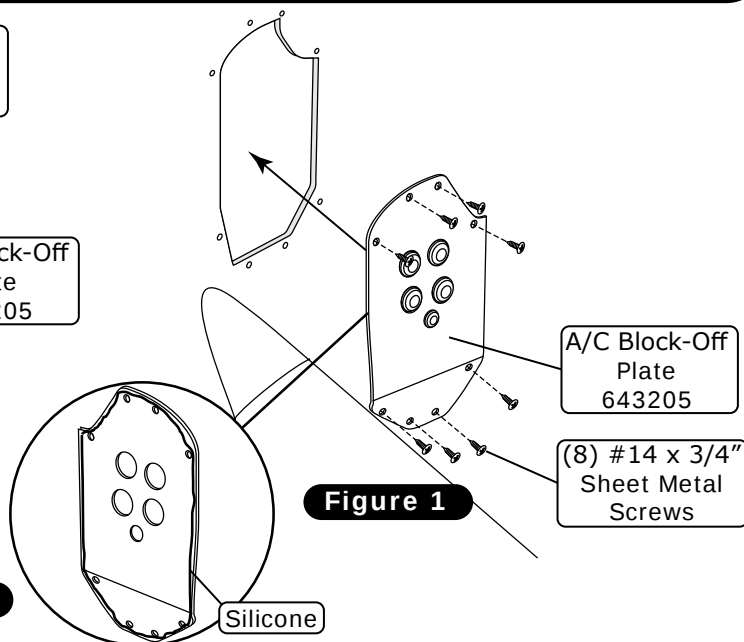
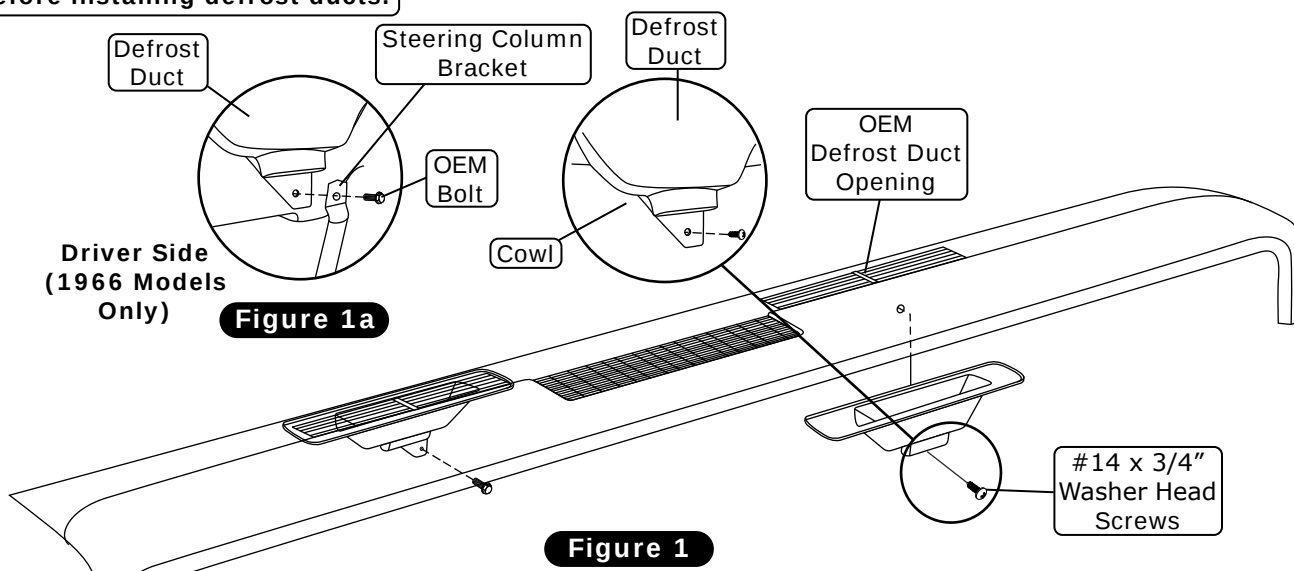

Figure 1a
Figure 1
NOTE: On 1967 models only, remove the A/C hoses and grommet beside the battery tray (retain screws) (See Figure 1a, below). Apply a bead of silicone around the opening in the inner fender, and install the inner fender cover using the (4) OEM screws (See Figure 1b, below).
1. Install (5) grommets into the A/C block-off plate as shown in Photo 1, below.
2. Apply a 1/4" bead of silicone around the mating surface of the A/C block-off plate as shown in Figure 1a, below.
4. Install the defrost ducts under the dash, aligning them with the OEM openings (See Photo 5, below). Secure the driver- and passenger-side defrost ducts to the cowl using (2) #14 x 3/4" washer head screws (See Photos 5, 6 and Figure 1, below). **NOTE:** On 1966 models, the driver-side defrost duct installs behind the steering column bracket and is secured using the steering column OEM bolt as shown in Figure 1a, below.